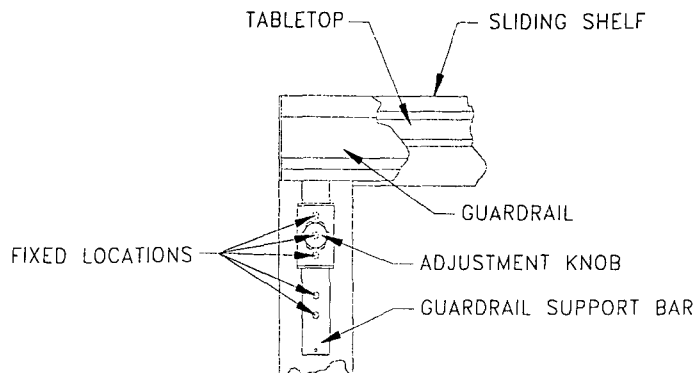
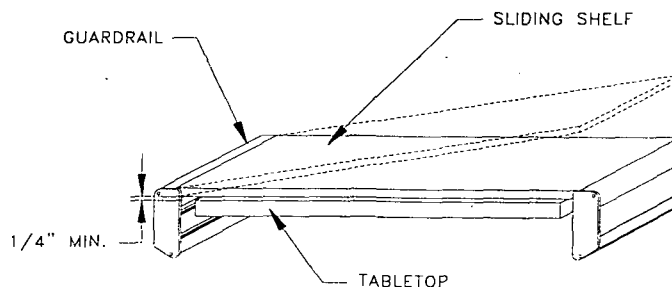

Fig. 6 9100/9200 Guardrail Height Adjustment
Fig. 7 Sliding Shelf Illustration
2. To adjust the Guardrail height loosen the Adjustment locating pin on both sides of the Guardrail and raise or lower the Guardrail evenly (as shown in figure 6). It is not necessary for the front and rear Guardrails to be at the same height, except when used with an optional Sliding Shelf. When used with a Sliding Shelf the Guardrail must be adjust to allow a minimum of 1/4 inch clearance between the bottom surface of the Shelf and the Top surface of the Tabletop (as shown in Figure 7).
3. The Sliding Shelf or shelves simply drop onto the front and back guardrails (as shown Fig. 7). They can then be slide into any position desired.